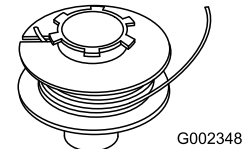

Figure 11
2. Hook one end of line **all the way** into the slot on the spool (Figure 11), **allowing no more than 1/8 inch (3 mm) to protrude.**